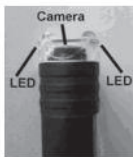

Fig.11
- b. Continue to roll the button to adjust the brightness of the camera LEDS (FIG.11).